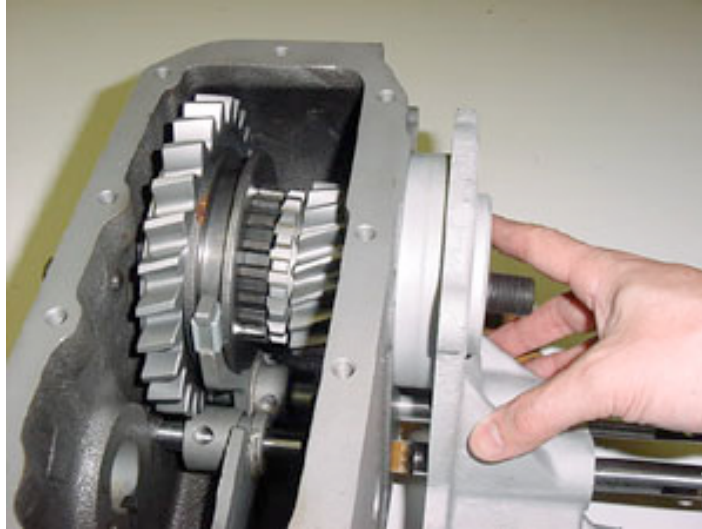

FIG: 15
15) Apply a small amount of RTV to the back face of the housing. Insert the aluminum housing/shift rails through the case. The rails should be worked through the forks as this is done. A small amount of oil in the bores on the forks and on the outside of the rails will help them slide together (Fig.15).